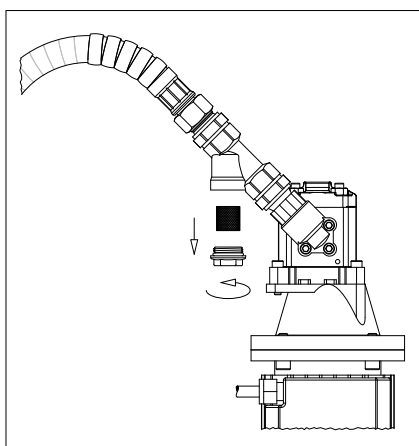

fig. 8
- (Fig. 8) Unscrew the filter plug after placing a collection vessel to collect for the operating fluid dripping. Pull out the mesh basket as well and clean both components, check the state of the first one and if damaged proceed with its replacement